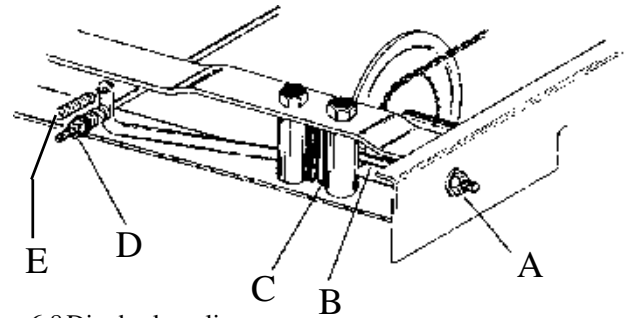

Figure 6.8 Disc brake caliper arms.
1. Loosen the locknut (A). Figure 6.8.
2. Adjust the bolt (B) so that the brake caliper (C) contacts the disc brake.
3. Tighten the locknut (A) and check operation of the brake.
2. Adjust the nyloc nut (D) on the brake rod so that the brake arm contacts the brake disc. Figure 6.8.
3. Remove the brake rod return spring (E) Figure 6.8.
4. Remove the brake rod nyloc nut (D) from the brake rod. Figure 6.8.